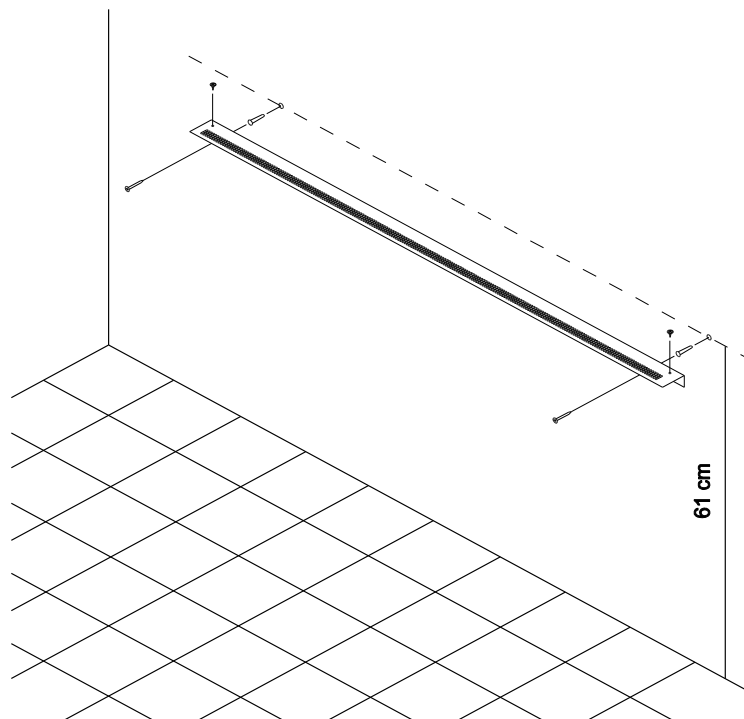

fig. 1
3.- Screw on the wall the fixing part, making drills at 61 cm over de floor (Fig. 1).